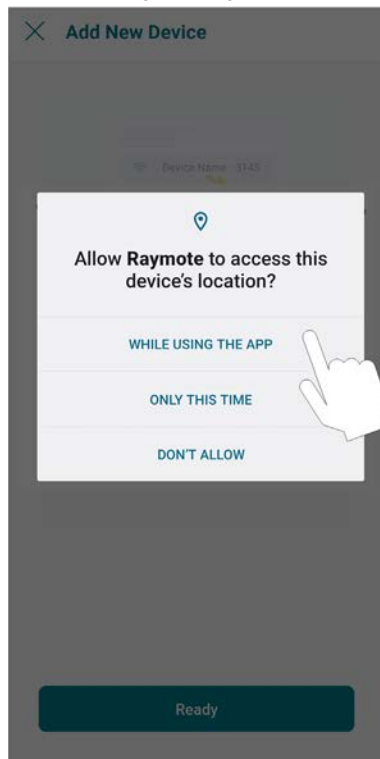

Figure 81. Grant Permission
**NOTE:** The first time you use a new phone, the Raymote mobile app may require you grant permission to access data. See Figure 81.